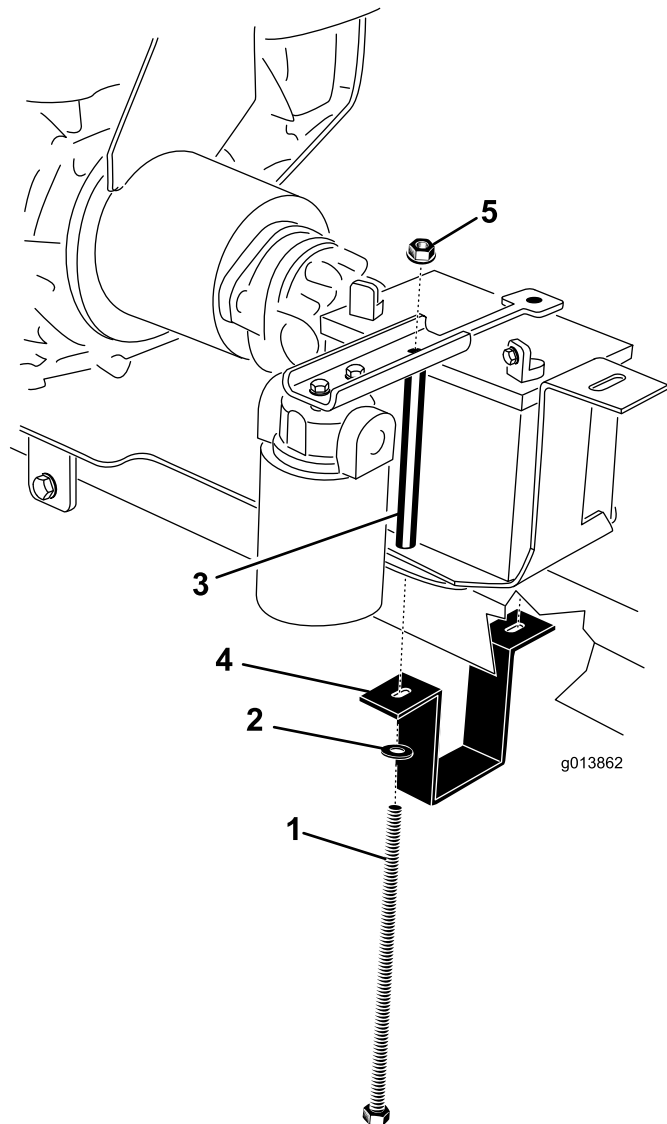

Figure 8
2. Mounting bolt (2)
11. Place the battery onto the battery tray, positioning the terminals as shown in Figure 8.
12. Position the battery hold down on the battery (Figure 8).
13. Hold the battery mount strap around the underside of the hitch tube (Figure 8).
14. On the right side, install a battery bolt through the washer, battery mount strap, engine mount plate, battery tray, battery bolt spacer, and hold down. Loosely install a flange nut (Figure 8).
15. On the left side, install a battery bolt through the washer, battery mount strap, engine mount plate, battery tray, battery bolt spacer, and hold down. Loosely install a flange nut (Figure 8).